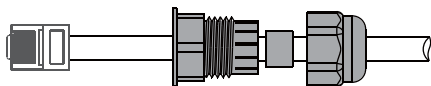

Figure 4.6-4 Remotely close the cable connection
Step 3-2 For Remote Shutdown. Run the cable through the steel plate , Then wire from pins 5 and 6. Table 4.6-1 describes the 6-pin port definition, Wiring is shown in Figure 4.6-4.